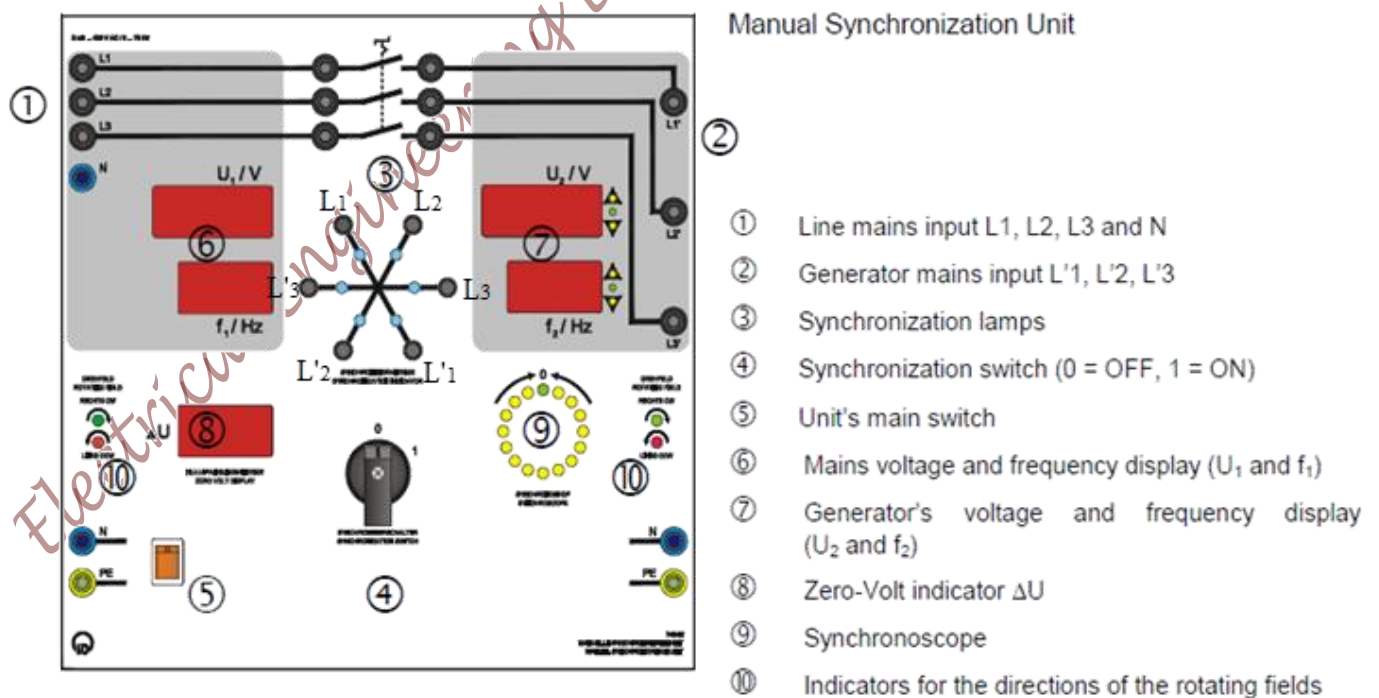

Figure 4.3 Manual Synchronizing Unit
1. Get familiar with the Manual Synchronizing Unit by studying Figure 4.3